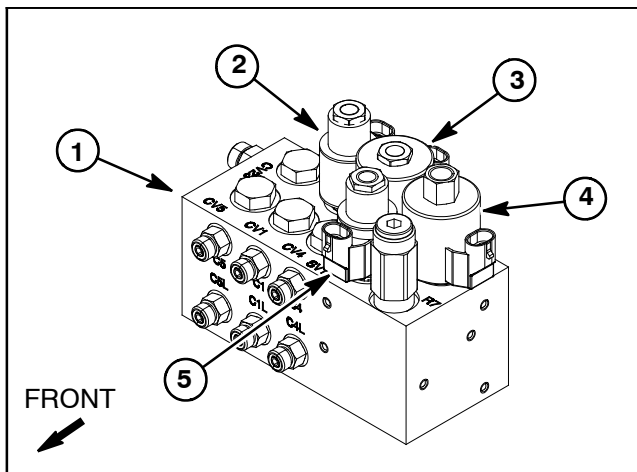

Figure 71
The Reelmaster hydraulic lift control manifold includes four (4) solenoid valves for system control (Fig. 71). When the solenoid coils are energized, hydraulic valve shift occurs to control hydraulic flow. Testing of the coils can be done with the coil installed on the hydraulic valve.
3. Disconnect wire harness electrical connector from hydraulic solenoid valve coil that is to be tested (Fig. 71).